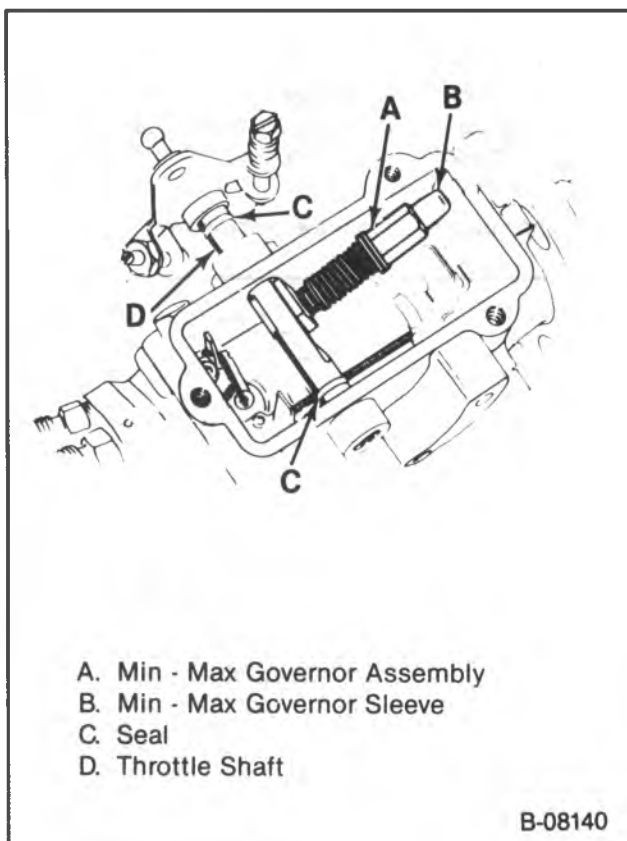

Figure 19 — Injection Pump Cover Removed
12. Minimum-Maximum governor assembly (figure 19).
1. Minimum-Maximum governor assembly (A) (figure 19).
- Rotate throttle shaft (D) to full throttle.
- Place the slotted portion of the governor assembly (A) onto the throttle shaft (D) slot.
- Rotate the throttle shaft (D) with governor assembly (A) into the housing.
13. Min-max governor assembly (figure 19).
Install or Connect (Figures 19, 20 and 21)
- Rotate the min-max governor assembly downward (figure 19).